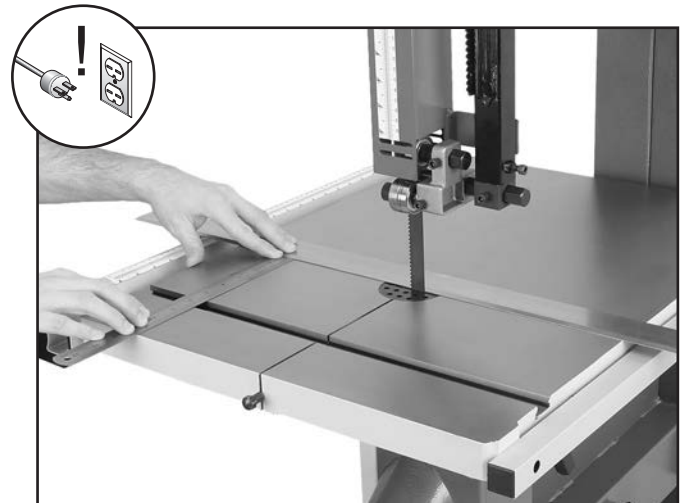

Figure 35. Example of measuring the table miter slot to be parallel with the blade.
3. Place the straightedge flat on the table and across the blade so that it lightly touches both the front and back of the blade without touching a tooth, as shown in **Figure 35**.